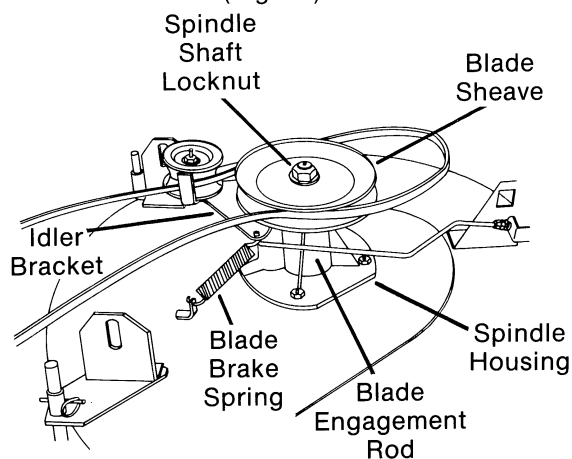

**FIG. 13**
- B. Sharpen beveled edges of the blade, reference (Fig. 13) for correct dimensions and instructions.